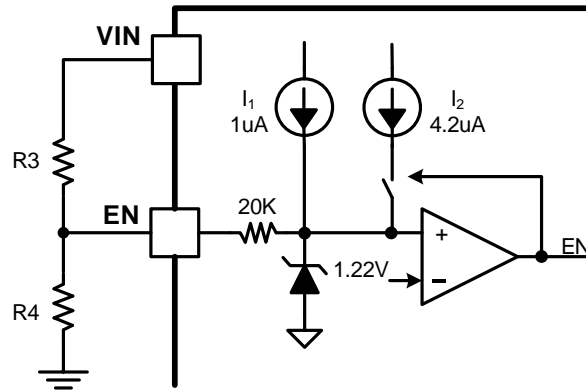

Figure 8. Adjustable VIN UVLO
An internal 1uA pull up current source connected from internal LDO power rail to EN pin guarantees that floating EN pin automatically enables the device. For the application requiring higher VIN UVLO voltage than the default setup, there is a 4.2uA hysteresis pull up current source on EN pin which configures the VIN UVLO voltage with an off-chip resistor divider R3 and R4, shown in Figure 8. The resistor divider R3 and R4 are calculated by equation (1) and (2).